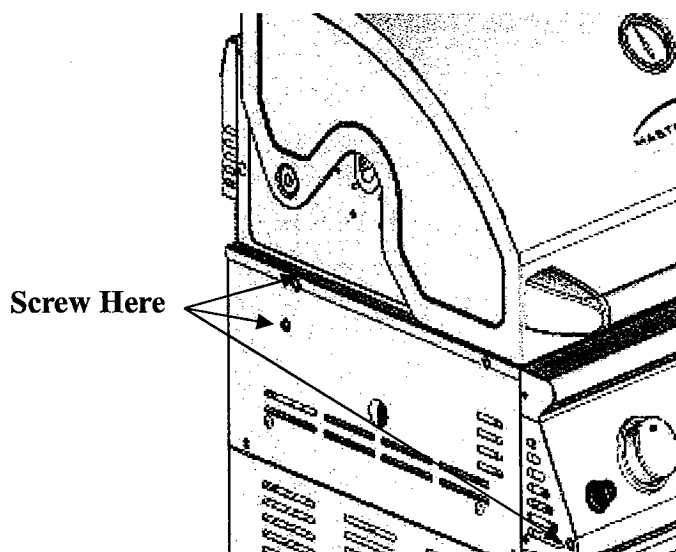

Fig. 20
- a. Loosen two screws attached in the left panel of the burner box and one attached on the left panel of the control box 3-4 turns (See Fig. 20). Parts are not to be installed in this step. Just loosen the three screws.